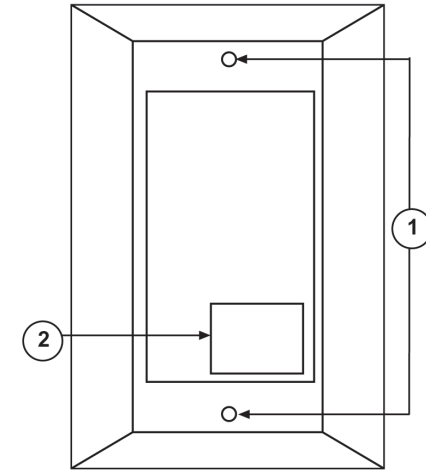

Figure 2.1: Back of D344-RL
3. Mount the plate to the electrical box as shown in Figure 2.1: Back of D344-RL.